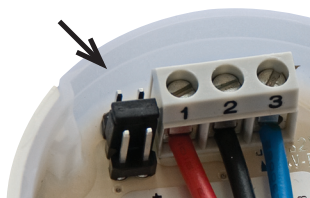

Fig. 11b
- b. To set at 30-3000 FC, place black pin cap over center two pins, placed horizontally as shown (See Figure 11b).